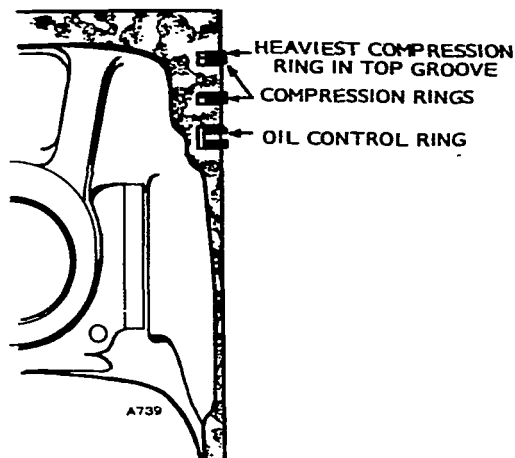

FIGURE 72. PISTON RINGS
3. Install the rings on the pistons starting with the oil control ring (Figure 72). Use a piston ring spreader to prevent twisting or excessive expansion of the ring. Compression rings have a dot or the word "top" on one side of the ring to indicate which side faces the top of the piston. Unmarked piston rings can be installed either way. The oil control ring has an expander; install the expander first and then close until the expander ends butt. The joint should be 180 degrees from the gap of that ring.